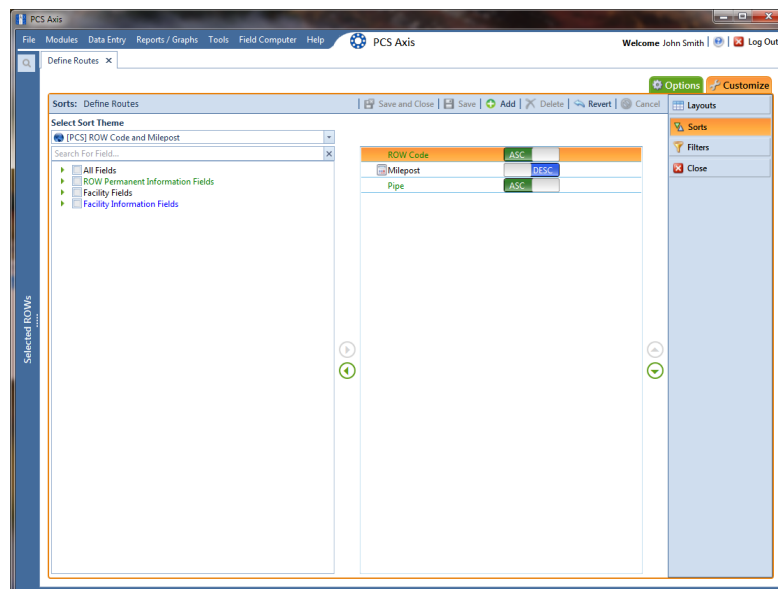

Figure 8-63. Sorts
- 3 Click the **Customize** tab , then the **Sorts** button  to open the *Sorts* page (Figure 8-63).